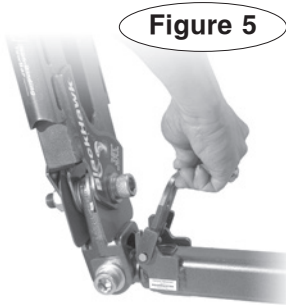

Figure 5
5. Push the release latch (Figure 5) forward, to bring both arms down to a horizontal position.